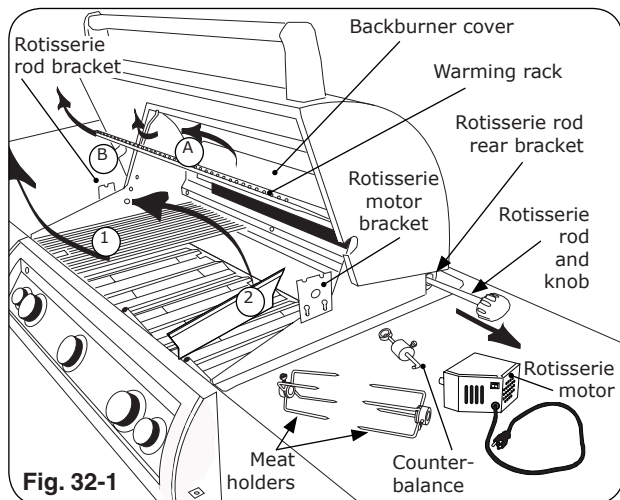

Fig. 32-1
2. Slide rotisserie motor fully onto motor bracket (right side, Fig. 32-1 and 32-2).
3. Remove rotisserie rod from rear bracket (Fig. 32-1) and attach knob if necessary.